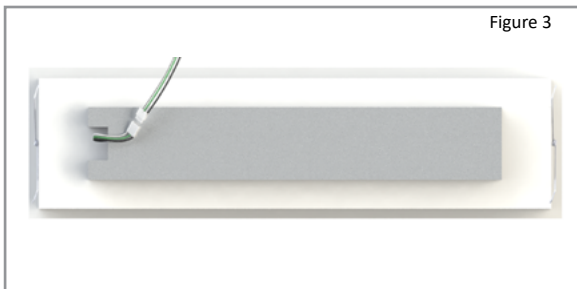

Figure 3
- Pull apart quick connectors, and place obsolete housing aside (*Figure 3*)